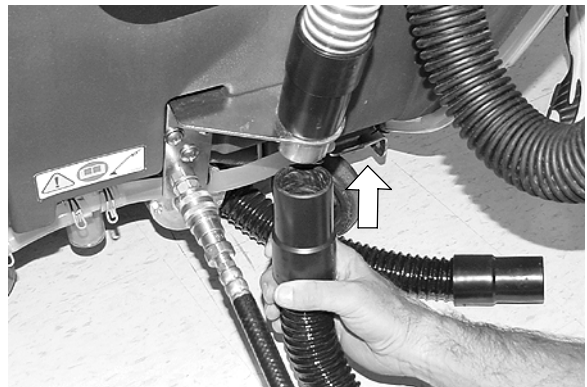

FIG. 14
3. Disconnect the lower vacuum hose from the machine and replace it with the accessory tool's vacuum hose (Figure 14).